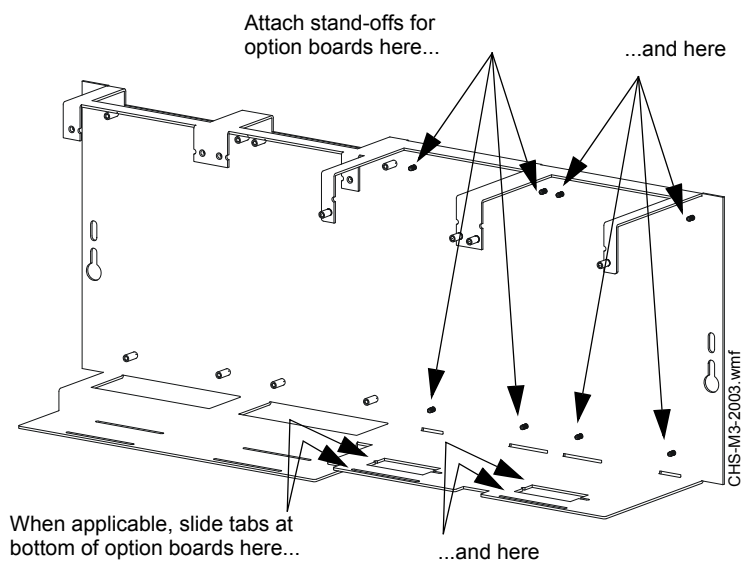

Figure 3.6 Mounting Option Boards in CHS-M3
1. Install four 1 inch (25.4 mm) female stand-offs onto the chassis (P/N 42040, included with chassis) as shown in Figure 3.6.